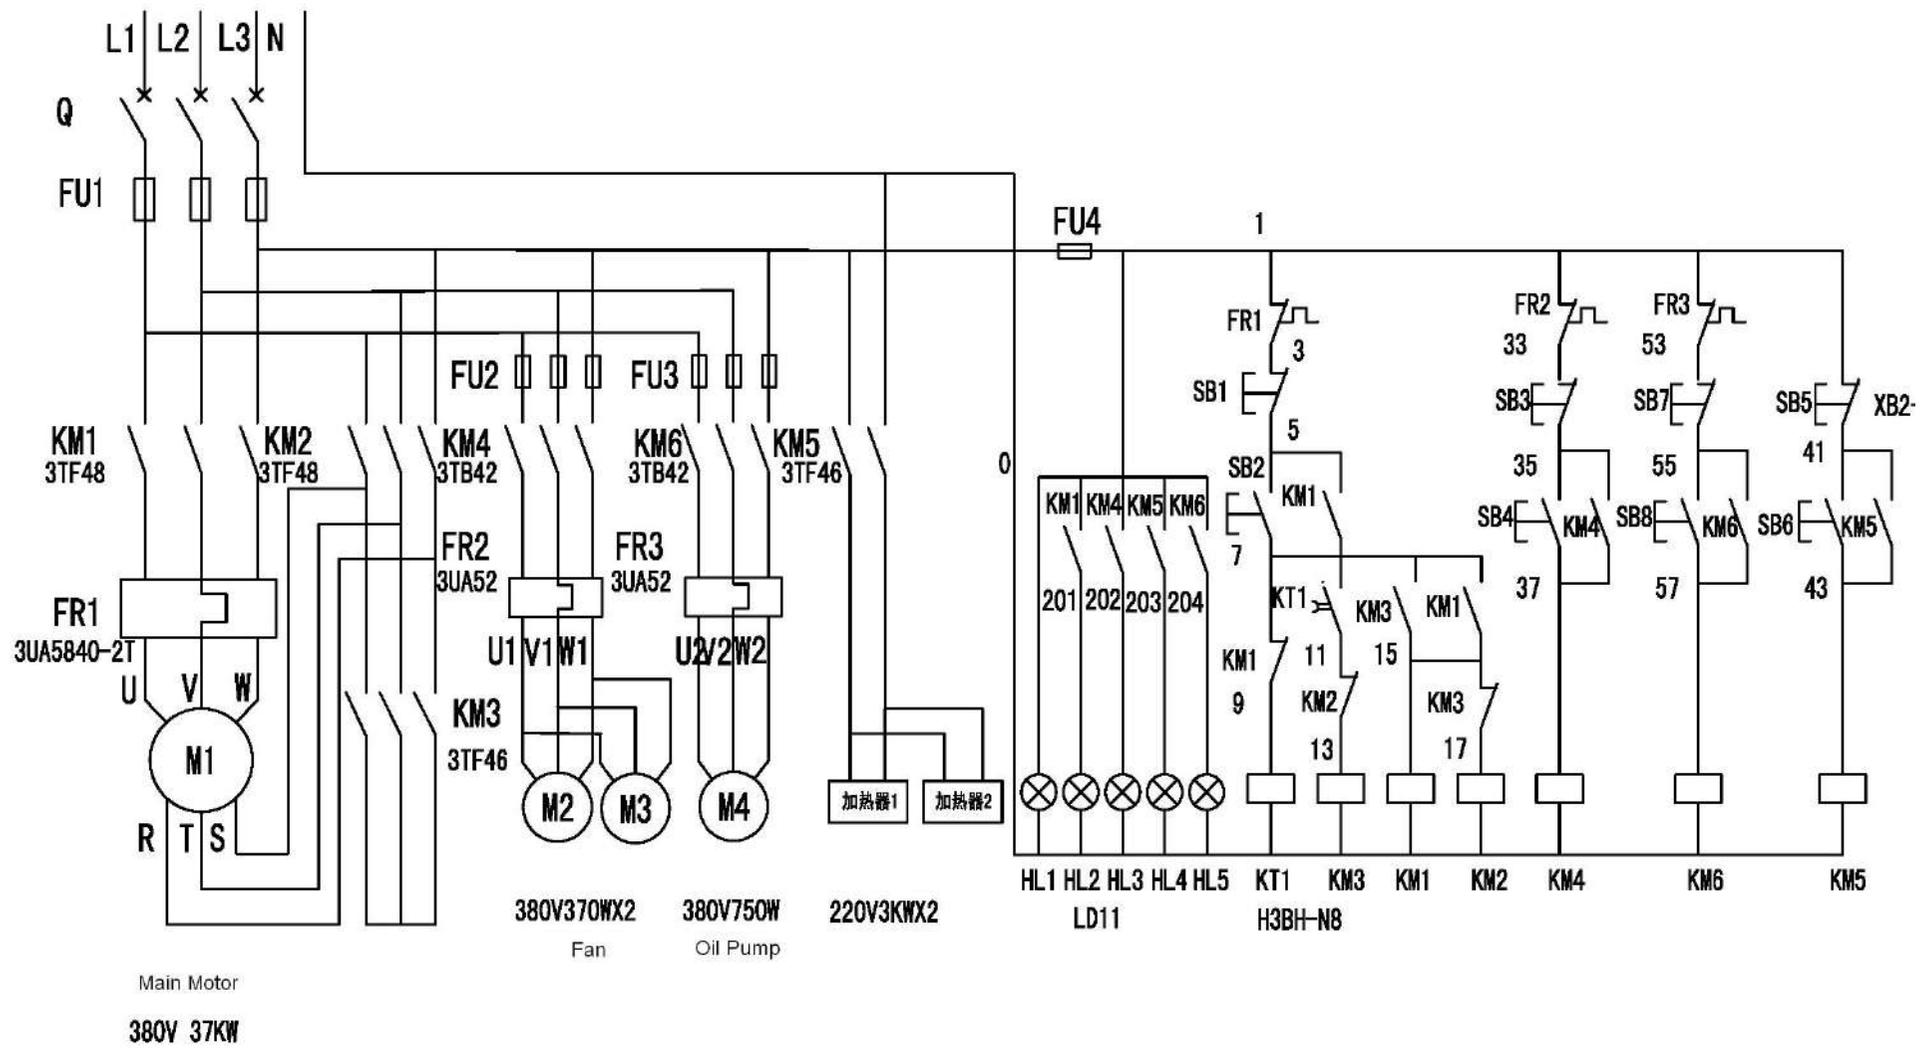

Fig.6 Electric Schematic Drawing
7.6 Fig.6 Electric Schematic Drawing